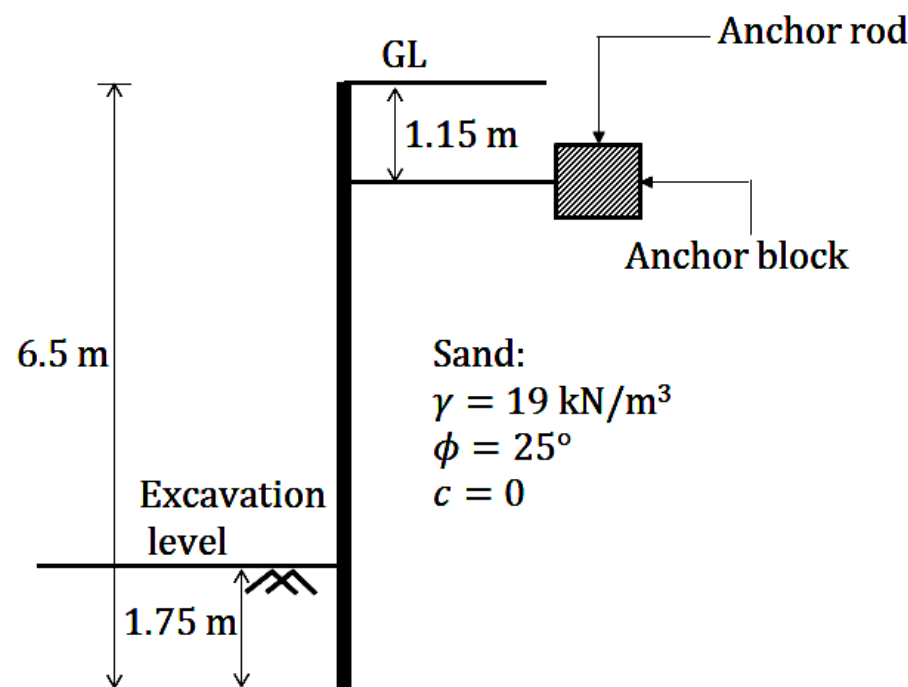

Fig.: 2
9. An anchored bulkhead 6.5 m high retains sand ($\phi = 25^\circ$ and $\gamma = 19 \text{ kN/m}^3$) on both sides as shown in Fig. 2. The anchor rods are 1.15 m below the top and depth of embedment is 1.75 m. Determine the factor of safety against failure. Comment, if the depth of embedment is adequate for a factor of safety of 2. If not, then obtain the depth of embedment for a factor of safety of 2 by drawing active and passive earth pressure diagrams. [[CO6](Analyse/IOCQ)]